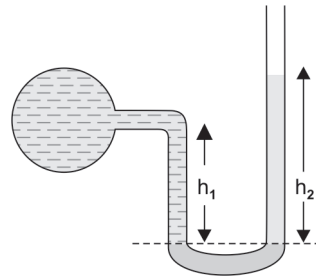

Fig. 1.6: Single column manometer
c. Single column manometer: It is a remodelled form of a U-tube manometer as shown in Fig. 1.6 which has a shallow reservoir attached to one end of the manometer. The shallow reservoir that is connected has a large cross-sectional area about 100 times in contrast to the area of the tube.